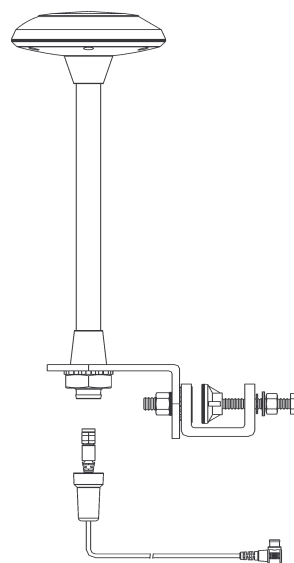

Figure 9- Cable Connector/Rubber Boot Connection
12. Tighten clamp screws on U-Bracket Assembly evenly up against the Air Dam Shield, See Figure 9 to 15 ft-lbs. using the appropriate torque wrench and adapters (1/2" size, hex or open-end wrench). **IMPORTANT:** Assure two 5/16" Hex Nuts are not tight at this step.
16. Take the cable connector (180 degree connector) NOT the Right-Angle SMB Connector and hand tighten over the connector on the bottom side of the Antenna Assembly. See Figure 9.
18. Place the rubber boot over the end of the Antenna Assembly shaft after the cable connector has been tighten. See Figure 9